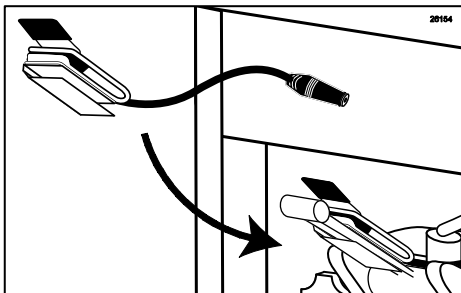

Figure 113
1. To install the standard Spigot Switch assembly to a flat handle, simply clip the Switch Bracket onto the handle and slide it up the handle until the switch is within grasping range. (See Figure 113.)